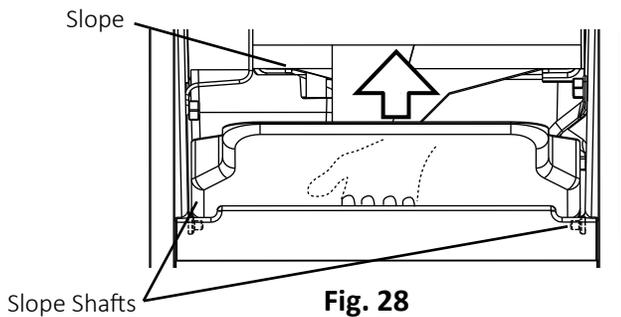

Fig. 28
2. Remove the slope from the storage bin by carefully bending it in the center and releasing it from the 2 slope shafts. See Fig. 28.